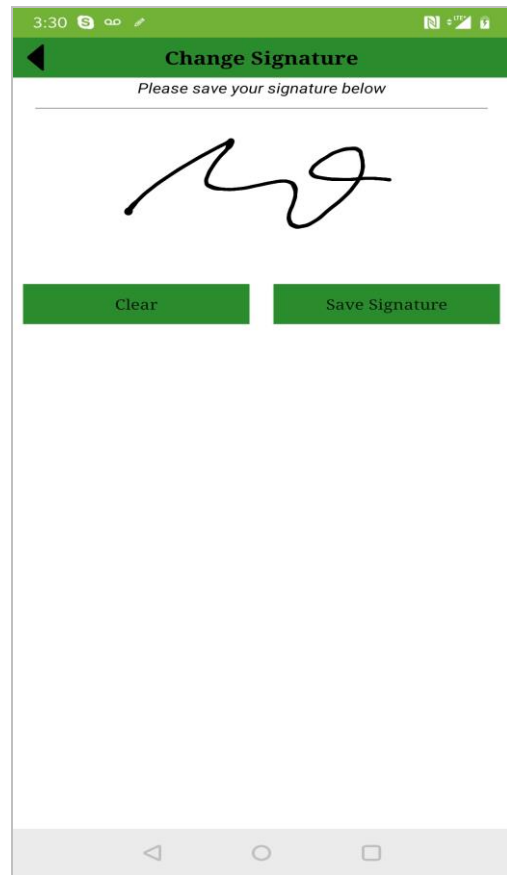

Figure 13.2 – Sign Screen
- Select capture Signature to add signature (figure 13.2). It is a one time activity.